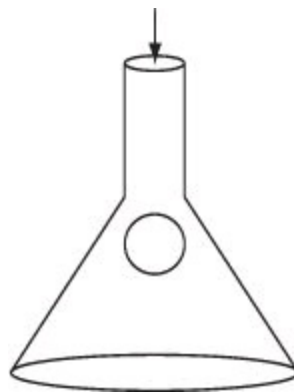

Figure SAT14.3TP1
1. Examine Figure SAT14.3TP1. Is it possible by blowing in the stem of the funnel that the Ping-Pong ball will rise toward the stem rather than fall down? Why?
2. Examine Figure SAT14.3TP2. List the figures that correctly represent the initial flow of water